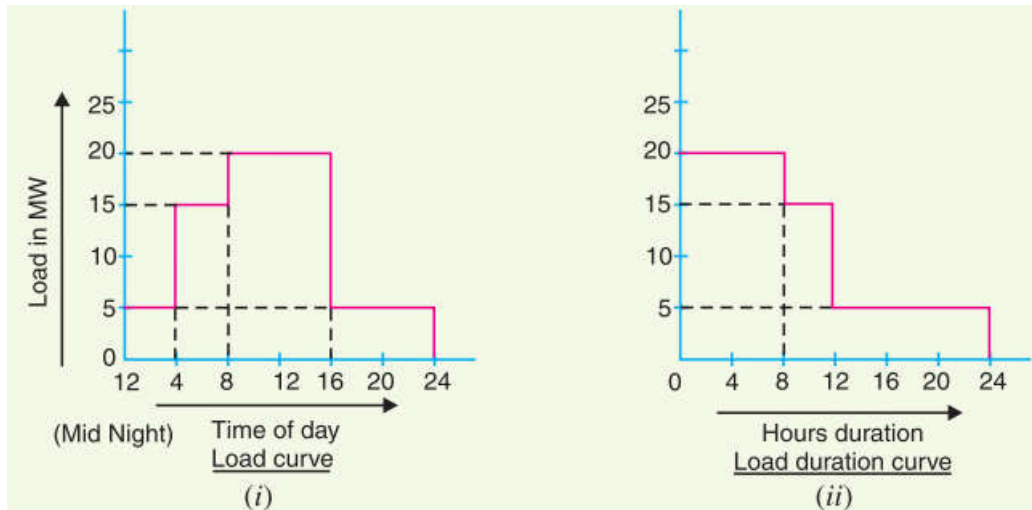

Figure 4.2
- Fig. 4.2 (i) shows the daily load curve. The daily load duration curve can be readily obtained from it.
- It is clear from daily load curve [See Fig. 4.2. (i)], that load elements in order of descending magnitude are : 20 MW for 8 hours; 15 MW for 4 hours and 5 MW for 12 hours. Plotting these loads in order of descending magnitude, we get the daily load duration curve as shown in Fig. 4.2 (ii).